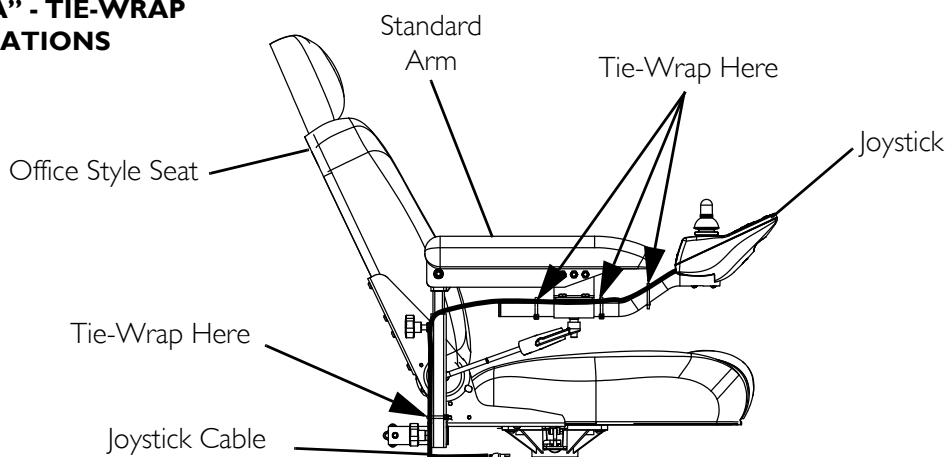

FIGURE 13.1 Removing/Installing the Joystick
NOTE: For this procedure, refer to FIGURE 13.1 on page 78.
3. Loosen the adjustment lock lever to release the joystick mounting tube from the mounting bracket. Refer to FIGURE 13.1 on page 78.
3. Tie-wrap the joystick cable to the arm as shown in FIGURE 13.1 on page 78.